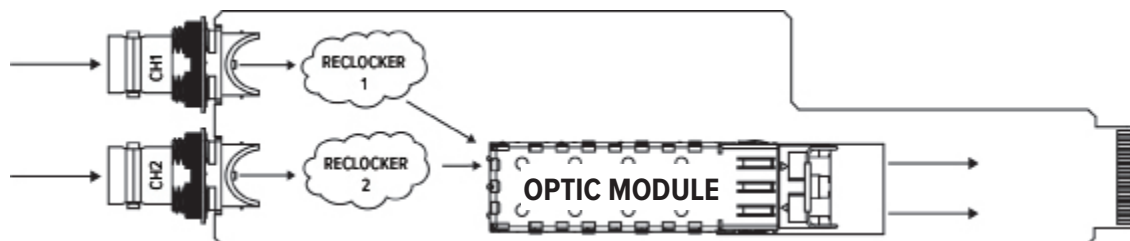

Figure 3. Sample Dual Video Transmitter Signal Flow (2 SDI Inputs).
- Dual Transmit (2TX), see Figure 3.